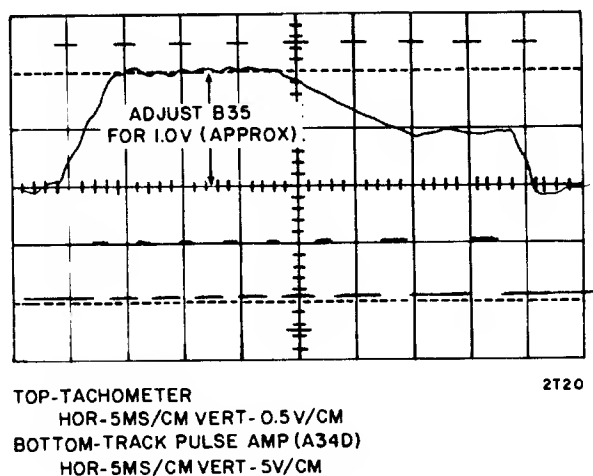

Figure 6-15. Tachometer Output (8-Track Forward Seek)
10. Command the disk storage drive to perform an eight-track repeat seek centering at Track 50. Make oscilloscope setting and a trace comparison according to Figure 6-15. If required, adjust the potentiometer shaft on Y306 at location B35 for two-track pulses during the 6 ips plateau.